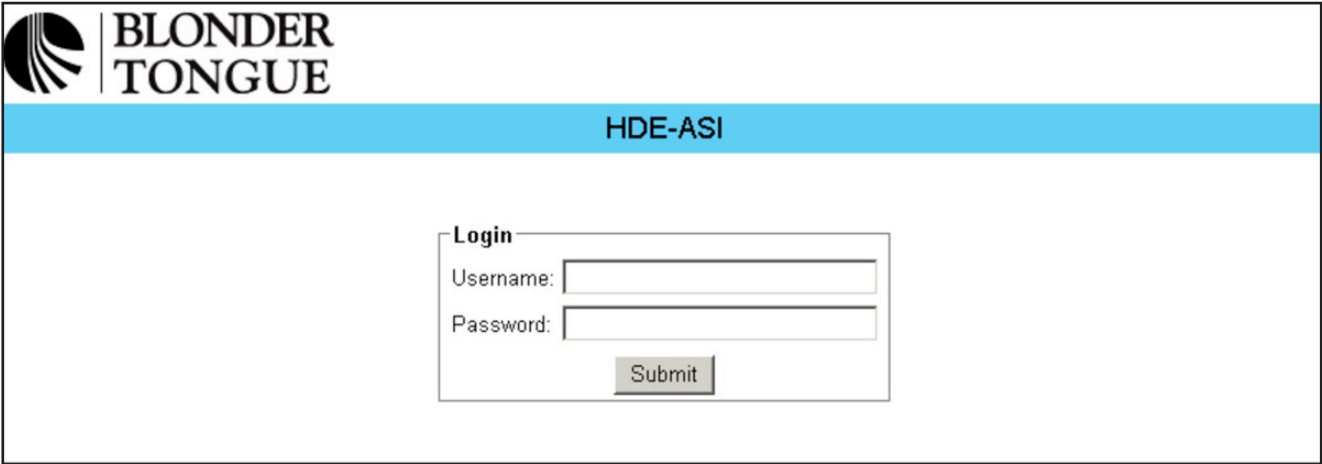

Figure 5-2: Login Screen
- (3) Open a web browser on your computer (Internet Explorer 7 is recommended) and enter the following URL address (<http://172.16.70.1>). The "Login Screen" (Figure 5-2) will appear.
- (4) Enter the following case-sensitive factory-default Username and Password, and click on the Submit button.
Once connection to the HDE-ASI Encoder has been established, the Login page (Figure 5-2) is displayed. There are two types of users: administrators and guests. Please see the section below labeled "**Network**" for a description of users and user rights. The default administrative login is "**Admin**" and the password is "**pass**". The default guests login is "**Guest**" and the password is "**pass**". The login and password are case-sensitive.